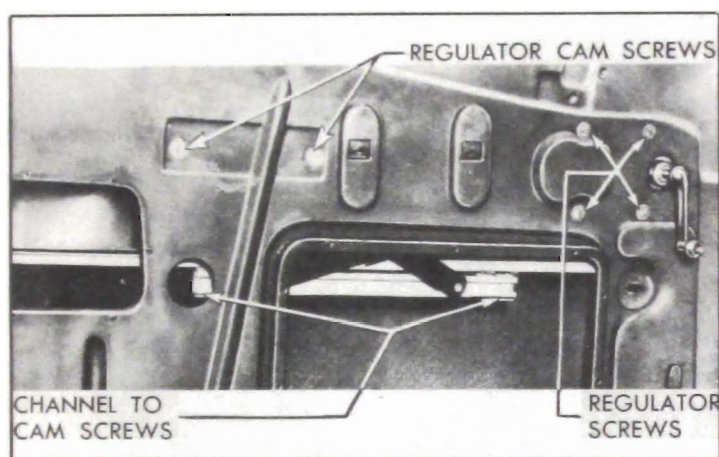

Figure 13-38—Window Regulator and Cam Attaching Screws
2. With glass in lowered position, remove screws attaching the cam to lower sash channel and remove the cam. See figure 13-38.
2. With glass in lowered position, remove screws attaching the cam to lower sash channel. See figure 13-38.